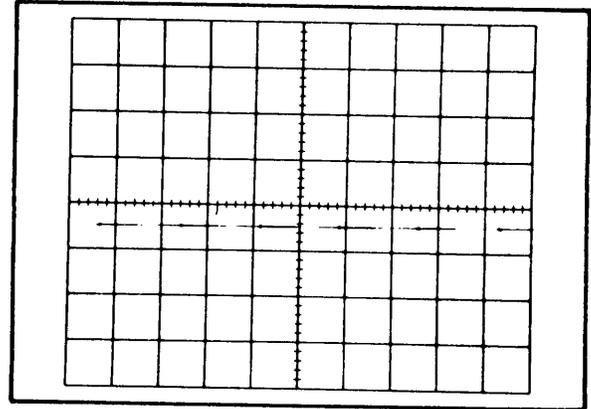

Fig. 6-24. Typical CRT display showing correct Intensity modulation (time/division, 10 milliseconds).
- c. Check the display for intensified dots (see Fig. 6-24). It may be necessary to reduce the INTENSITY setting slightly to see the dots.